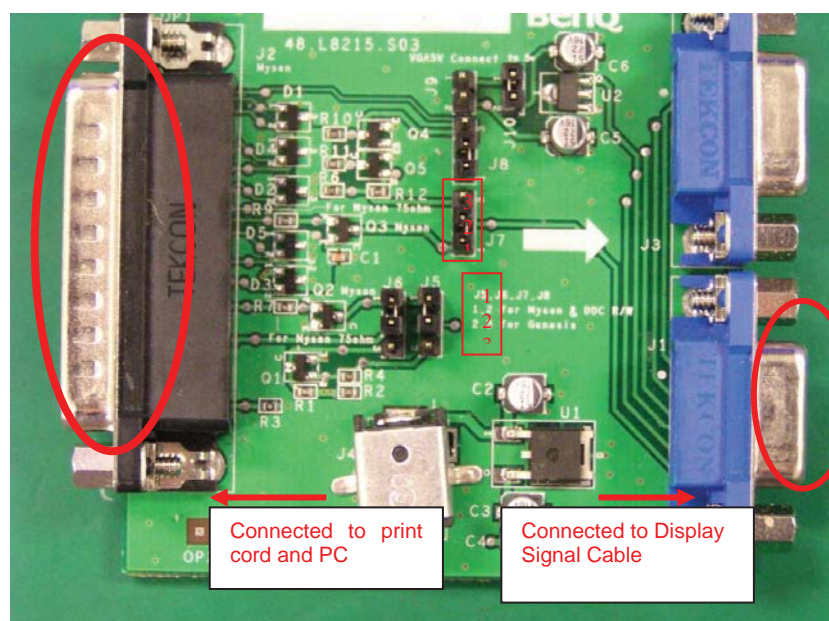

Fig.1
4. ISP boardas shown in Fig. 1